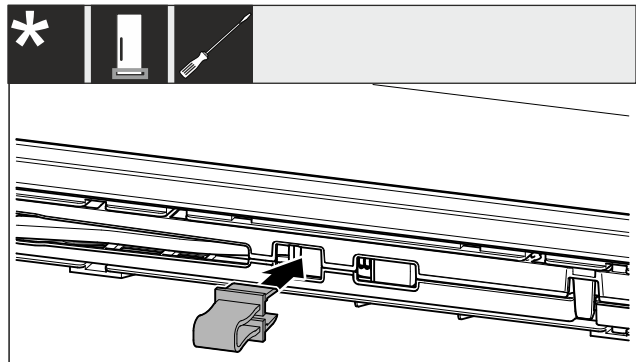

Fig. 4
- ▶ Beveiliging in opening vastklikken Fig. 4 ()